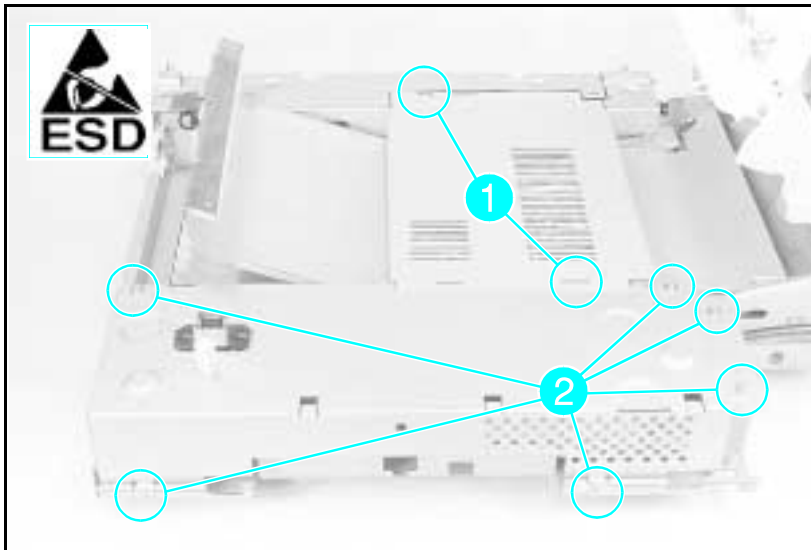

Figure A-16 **Cover Plate**
- 1** Remove the (2) screws shown in Figure A-16, callout 1.